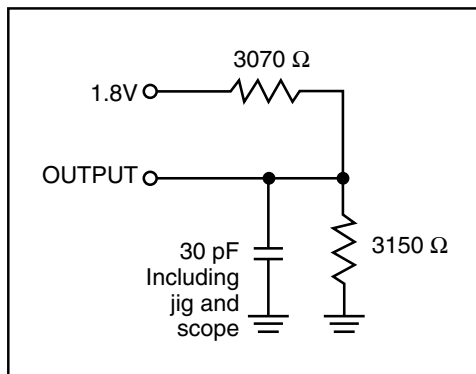

Figure 1
Output Load	See Figures 1 and 2
- Test conditions assume signal transition times of 5 ns or less, timing reference levels of 0.9V, input pulse levels of 0.4 to 1.4V and output loading specified in Figure 1.
1. Test conditions assume signal transition times of 5 ns or less, timing reference levels of 0.9V, input pulse levels of 0.4V to 1.4V and output loading specified in Figure 1.